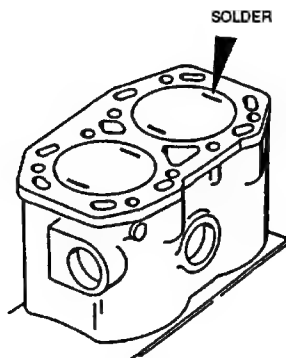

FIGURE 3-30. Checking Cylinder Head Clearance
- (1) Place head gasket onto crankcase. Align holes in gasket with those in crankcase. Rotate engine so pistons are below cylinder head deck.
- (2) Using a very small amount of general purpose grease 630AA, place four pieces of solder (SN60WRAP2) size 0.062 in. (1.58 mm) thick on pistons as shown in FIGURE 3-30. Space solder on outer edge and as near as possible in line with piston pin. Care must be taken to ensure that solder will be clear of valve recesses.
- (3) Install cylinder head and torque bolts, refer to paragraph 3-27.6.
- (4) Manually rotate engine through two complete revolutions.